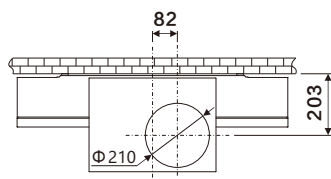

Figure 2
- As figure (1), drill 4 holes of $\Phi 10\text{mm}$ horizontally on the wall, hole depth 80mm, and hole spacing as n figure (1),
- Install the air duct cover (if needed): If the kitchen room has suspended ceiling and flexible duct through the ceiling (the opening size as Figure 2);